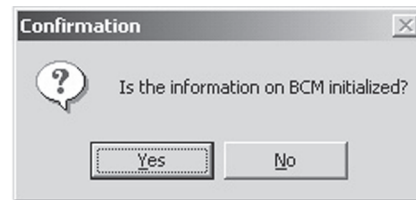

Fig.117
4. The following window appears (Fig.117):